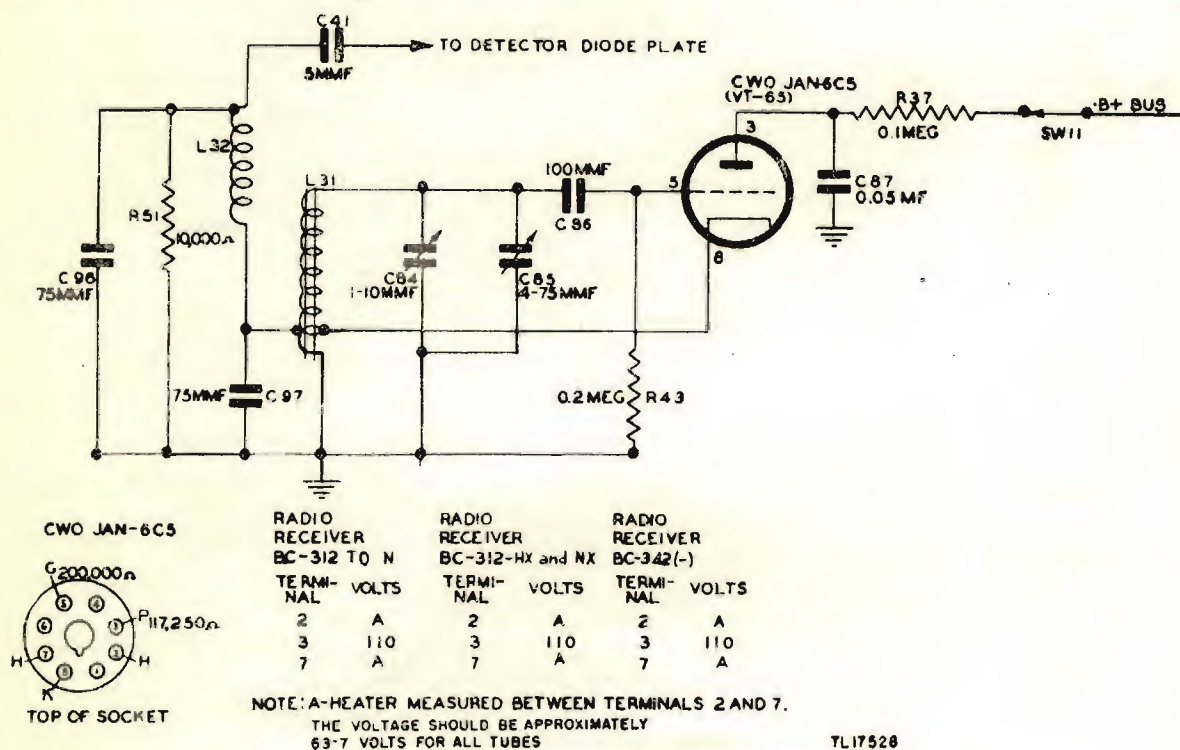

Figure 29. C-w oscillator, schematic diagram.
**b. VOLTAGE AND RESISTANCE MEASUREMENTS.** The voltage and resistance measurements shown in figure 29 are made in the manner and under the conditions listed in paragraph 42b.